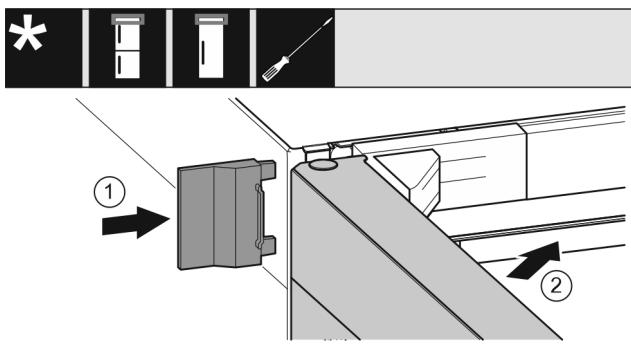

Fig. 27
- ▶ Slide on the outer cover *Fig. 27 (1)*.
- ▶ Close the top door *Fig. 27 (2)*.